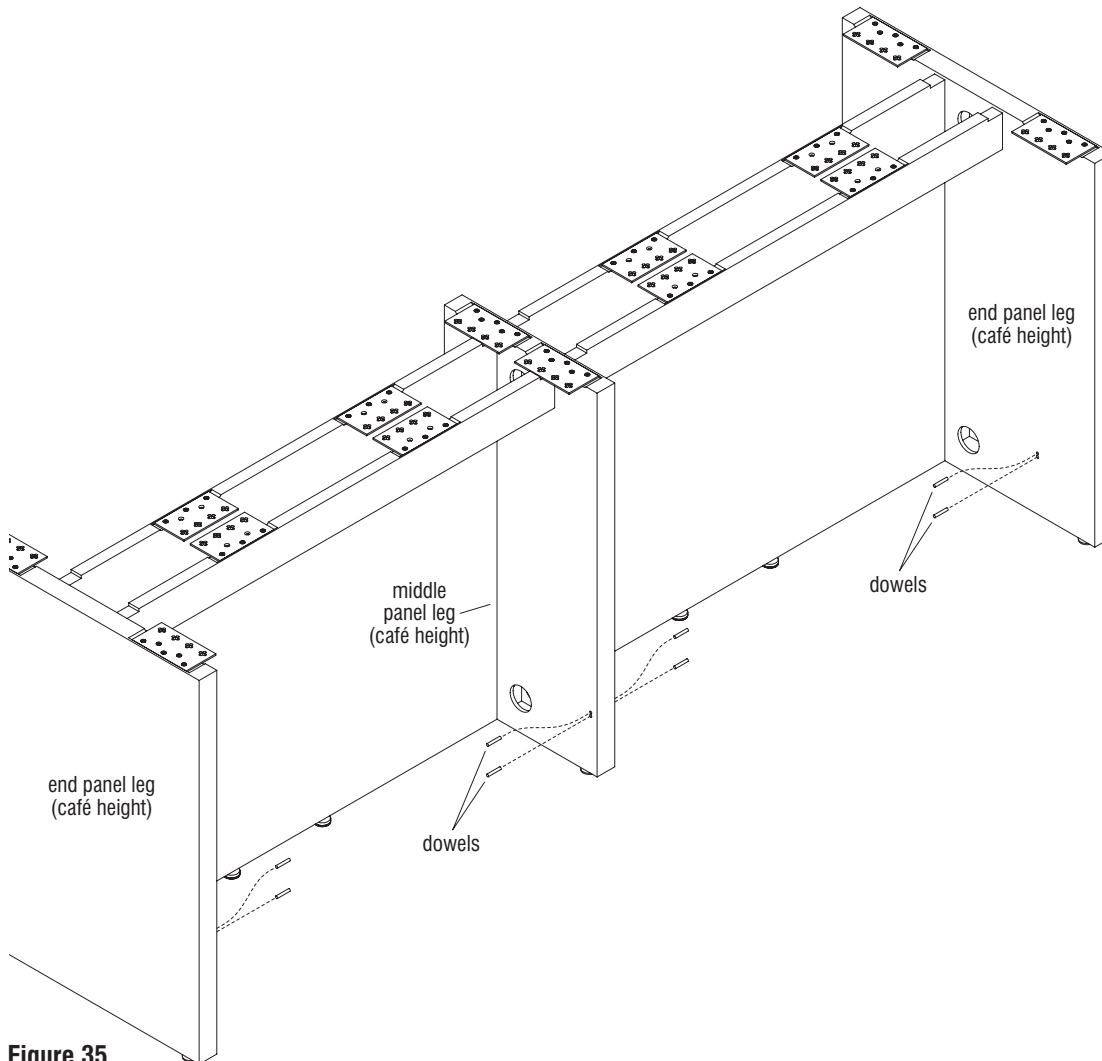

Figure 35
1. Locate the pairs of pre-drilled holes for the footrest installation location, at the lower inside of both end panel legs. Insert and fully tap a dowel into each of the four pre-drilled holes (Figure 35 & Detail Z3).
2. Locate the pairs of pre-drilled holes for the footrest installation location, at the lower face on both sides of the middle panel leg. Insert and fully tap a dowel into each of the four pre-drilled holes (Figure 35 & Detail A4).